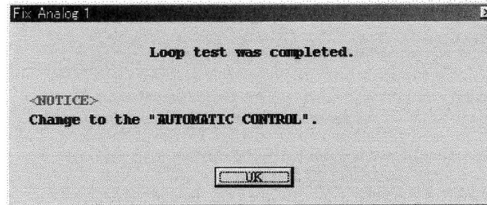

Fig.83
- ⑤ In response to clicking on "Stop" button, a message box like the one shown in Fig. 83 appears. Click on "OK" button.